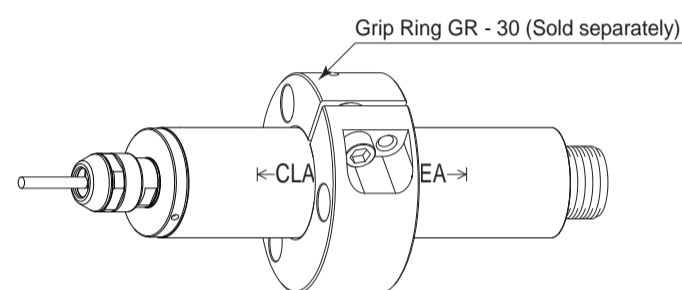

Fig. 9
- \* When installing the Spindle, it is recommended to use a "GR - 30 Grip Ring (sold separately (Fig. 9))". If the GR - 30 Grip Ring cannot be used due to the restriction of dimension and space, install as shown in ② below.